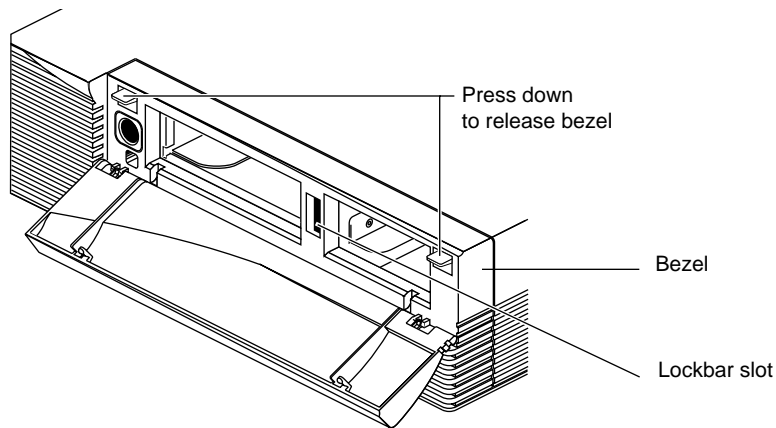

Figure 9-3 Releasing the Bezel
- Press down on the tabs on each side of the bezel, as shown in Figure 9-3.